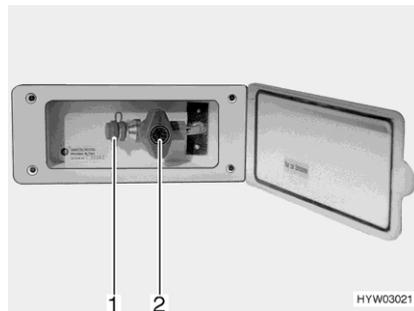

Fig. 100 External gas connection
- Connect the external gas device to the connection point (Fig. 100,1).
- Open the gas isolator tap (Fig. 100,2).